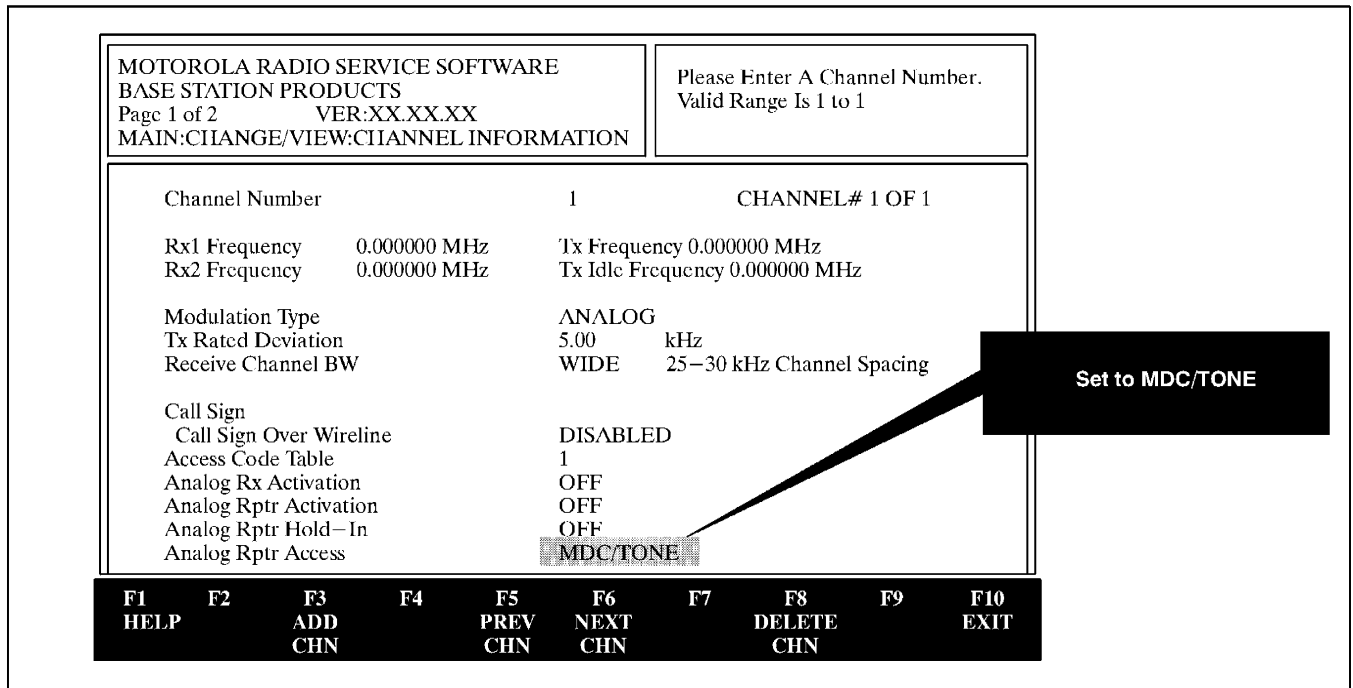

**Figure 3.** Making *Multi-Coded Squelch* RSS Setting
- Step 2.** Access the *Hardware Configuration* screen and set the *Multi-Coded Squelch* field to **MULTI-PL ONLY** to enable the Multi-Coded Squelch feature (as shown in Figure 3).